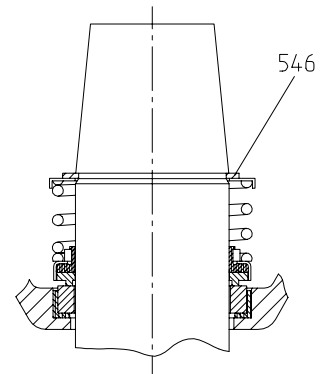

Fig. 7
2.8.1 REMOVAL OF PUMP SIDE MECHANICAL SEAL (515)
a) Exposed-spring seal - type "C" (Fig. 7)